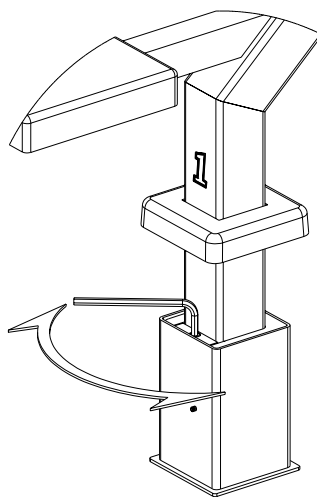

FIGURE 8
1. Loosen bolt using a $\frac{1}{4}$ " ALLEN wrench, turning wrench in a counter-clockwise direction as seen from looking down. See **FIGURE 8**.